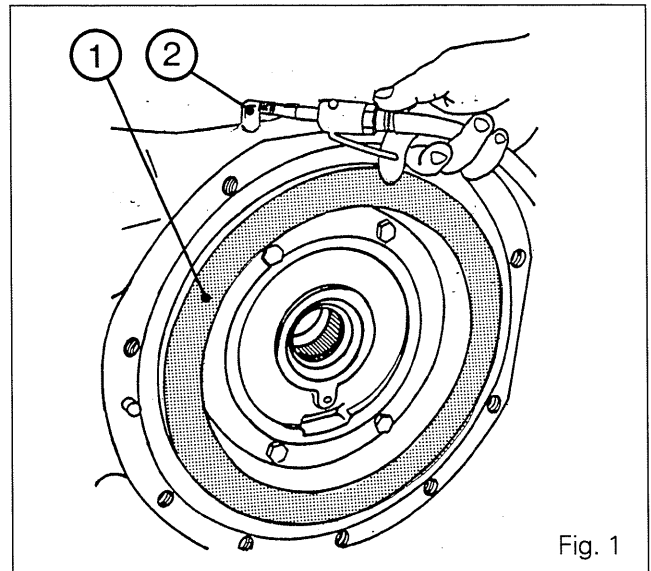

Fig. 1
2. Disconnect the brake pipe. Remove the piston (1) from the housing with a jet of compressed air connected onto union (2) (Fig. 1).